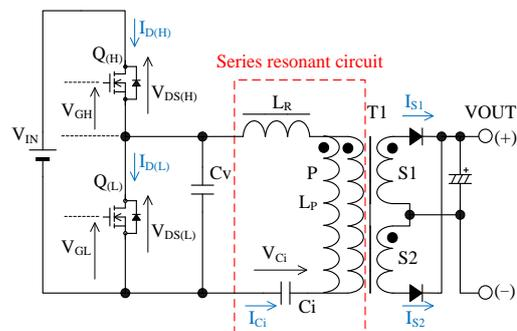
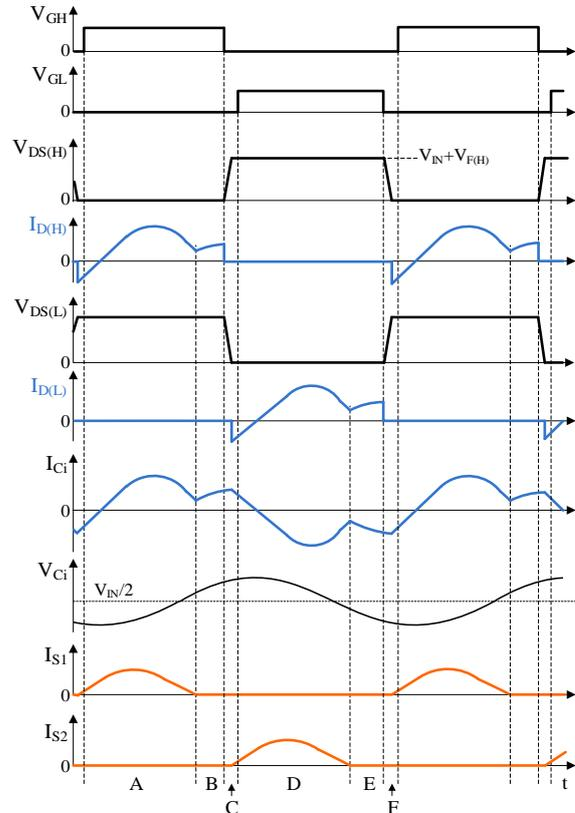

Figure 8-3. Current Resonant Power Supply Circuit
Figure 8-4. The Basic Operation Waveforms of Current Resonant Power Supply
Figure 8-3 shows the circuit of a current resonant power supply. The basic configuration of the current resonant power supply is a half-bridge converter. The switching devices, Q_(H) and Q_(L), are connected in series with V_{IN}. The series resonant circuit and the voltage resonant capacitor, C_v, are connected in parallel with Q_(L). The series resonant circuit is consisted of the following components: the resonant inductor, L_R; the primary winding, P, of a transformer, T1; and the current resonant capacitor, C_i. The coupling between the primary and secondary windings of T1 is designed to be poor so that the leakage inductance increases. This leakage inductance is used for L_R. This results in a down sized of the series resonant circuit. The dotted mark with T1 describes the winding polarity, the secondary windings, S1 and S2, are connected so that the polarities are set to the same position as shown in Figure 8-3. In addition, the winding numbers of each other should be equal. From Equation (1), the impedance of a current resonant power supply is calculated by Equation (5). From Equation (4), the resonant frequency, f₀, is calculated by Equation (6).
Figure 8-4 describes the basic operation waveform of current resonant power supply (see Figure 8-3 about the symbol in Figure 8-4). For the description of current resonant waveforms in normal operation, the operation is separated into a period A to F. In the following description: